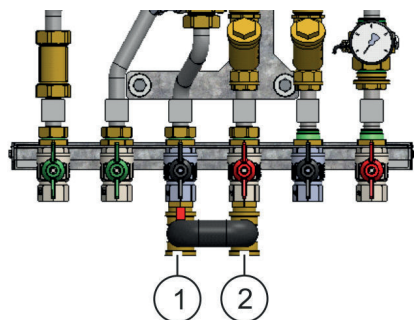

Fig. 32: Opening the ball valve for the heating supply and heating return
Open the primary connection for the heat supply flow line (Fig. 32/2).
8. ➤ Open the primary connection for the heat supply return line (Fig. 32/1).